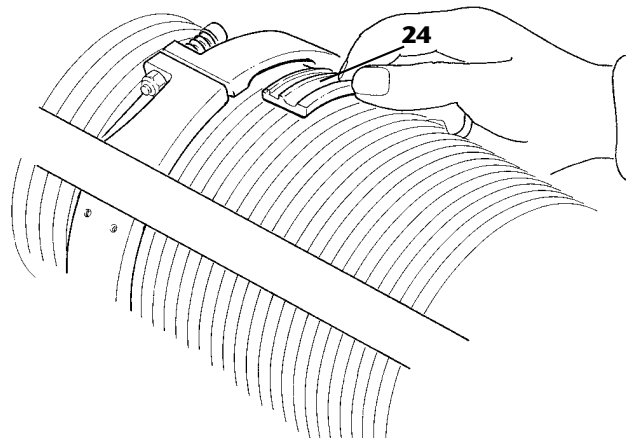

fig. 201
8. Insert, section by section, in the slot on the side of the rope ring, the wire rope-clamp runners -24- checking the correct slot (fig. 201).
9. Insert, section by section, in the slot on the side of the rope guide the rope-clamping runners -24- checking their correct sliding (fig. 201).